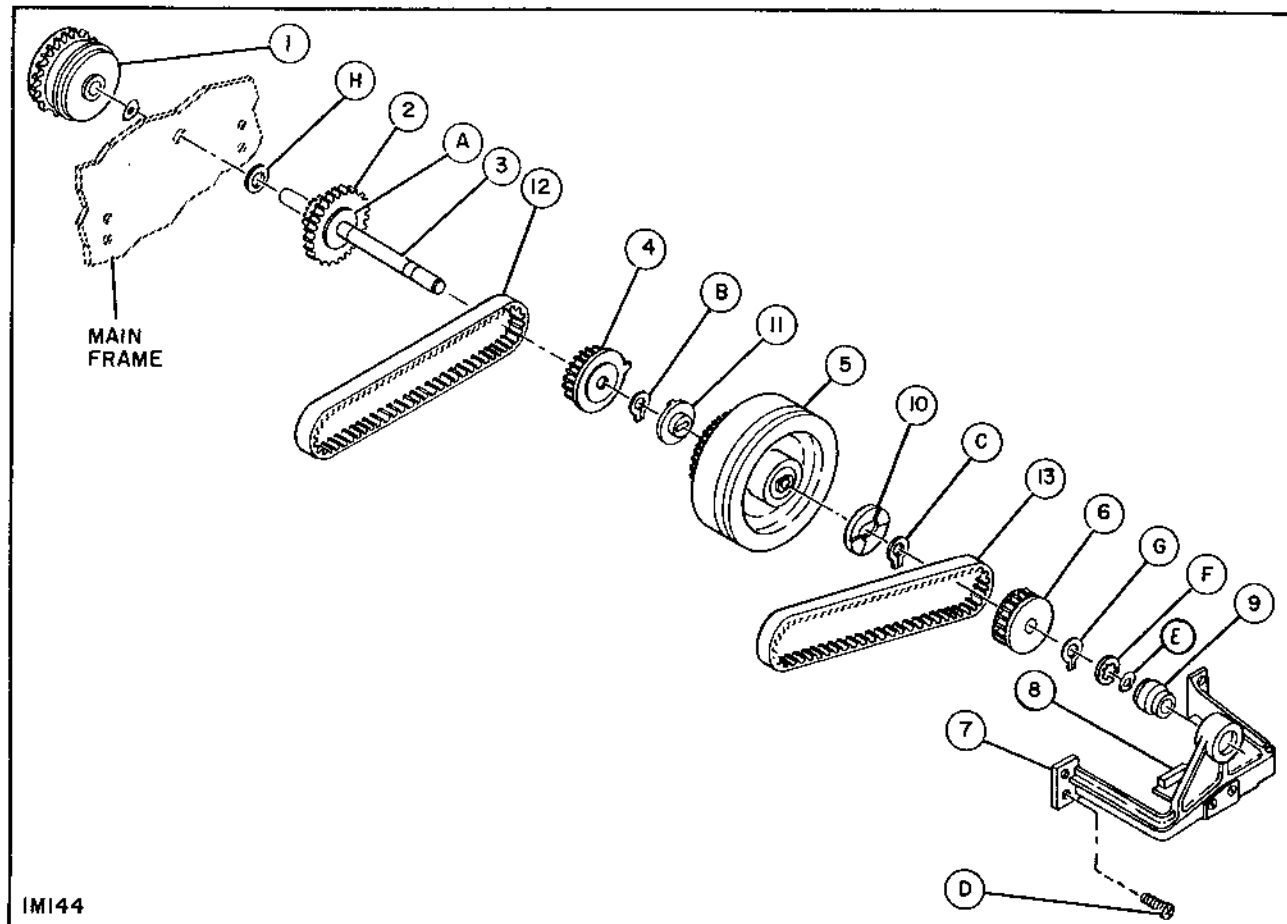

Figure 26
2. Remove four mounting screws (D) from main shaft support (7). Hold down slightly on spring extending from support while removing from projector. This will prevent loosening of felt pad (8). On MI-35181A remove reel brake shoe from claw travel adjustment screw.
3. Remove reverse drive belt (13).
4. Remove rewind belt (12).
5. Remove heavy retaining ring (G) (figure 26).
6. Remove reverse pulley (6).
7. Remove thin retaining ring (C).
8. Remove fluid clutch (5).